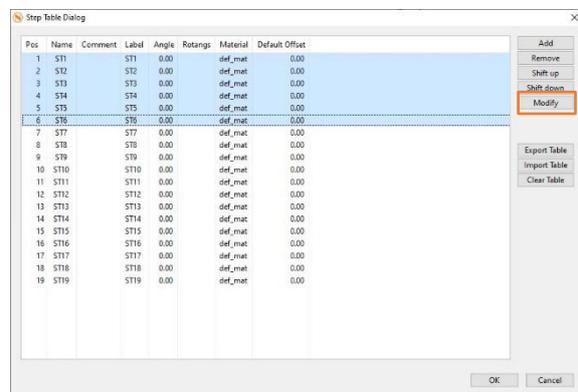

Figure 224
9. Now our Step Table includes 19 steps all looking the same. To change this, we mark the first six steps by selecting them one by one while pressing the **-CTRL-** key or by clicking on the first step and press **-SHIFT-** while clicking the sixth step. Now all steps from 1 to 6 are selected and we can click  (Figure 224) to edit them all at the same time.